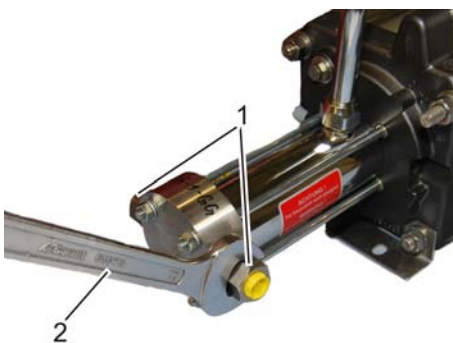

Fig. 89: Releasing the valves
4. ➔ Undo inlet and outlet connections (Fig. 89/1) on booster head with a spanner (Fig. 89/2).